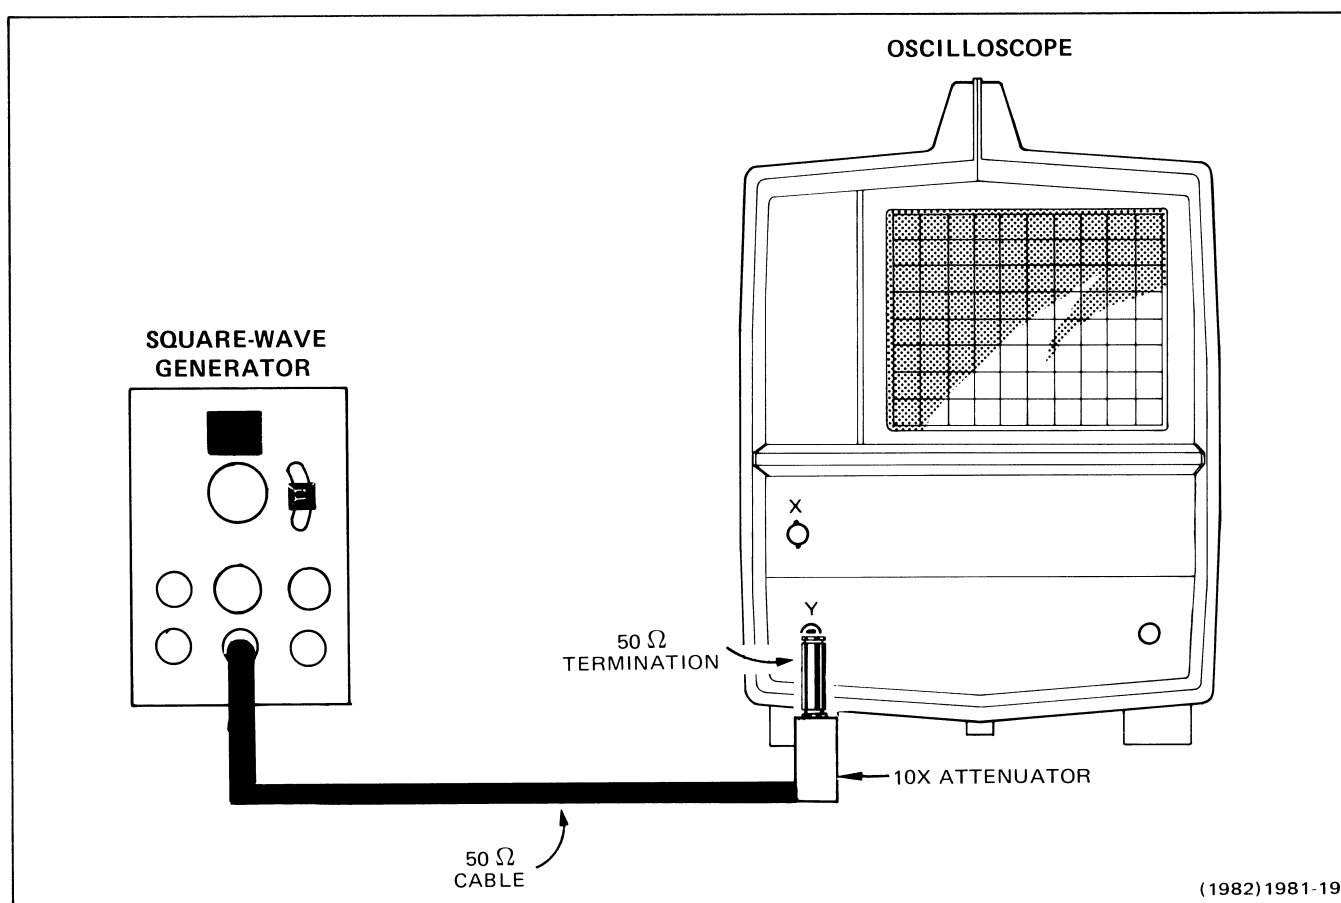

Fig. 4-5. High frequency compensation adjustment setup.
b. Connect square-wave generator (fast-rise, + transition) to CH 1 input connector via 50 Ω cable, 10X attenuator, and 50 Ω termination (see Fig. 4-5).